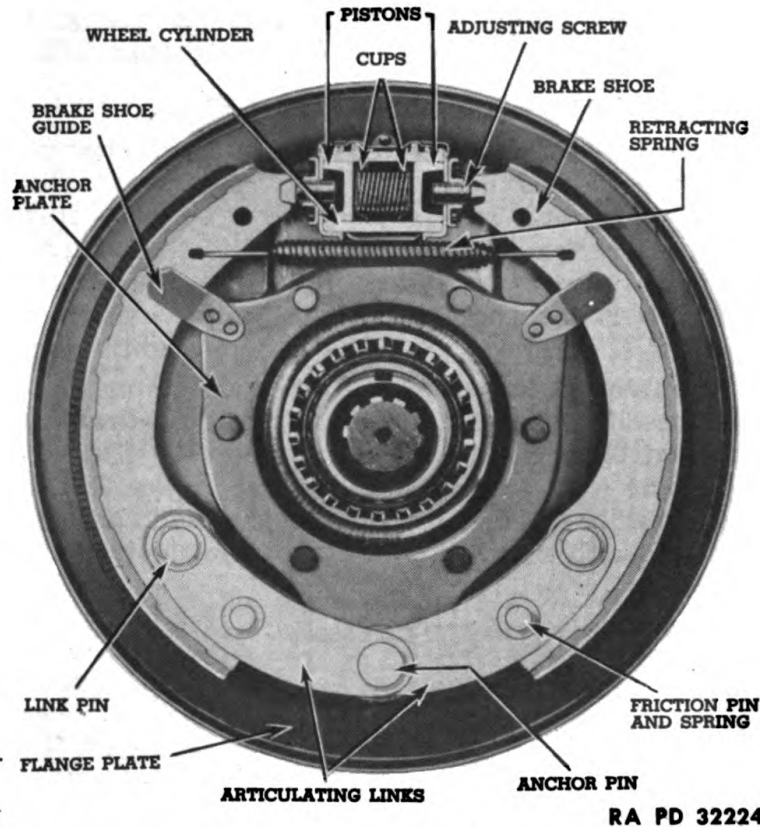

Figure 103—Electric Trailer Brake Adjustment
a. **General** (fig. 103). On certain vehicles an electric control unit for the trailer brakes is mounted under the driver compartment floorboards. The control unit is connected by an adjustable rod clamped to the foot brake pedal pull rod, so that when the truck foot brakes are applied, the trailer brakes also are applied. A stop light switch also is incorporated in this unit which controls both truck and trailer stop lights, according to main light switch position.